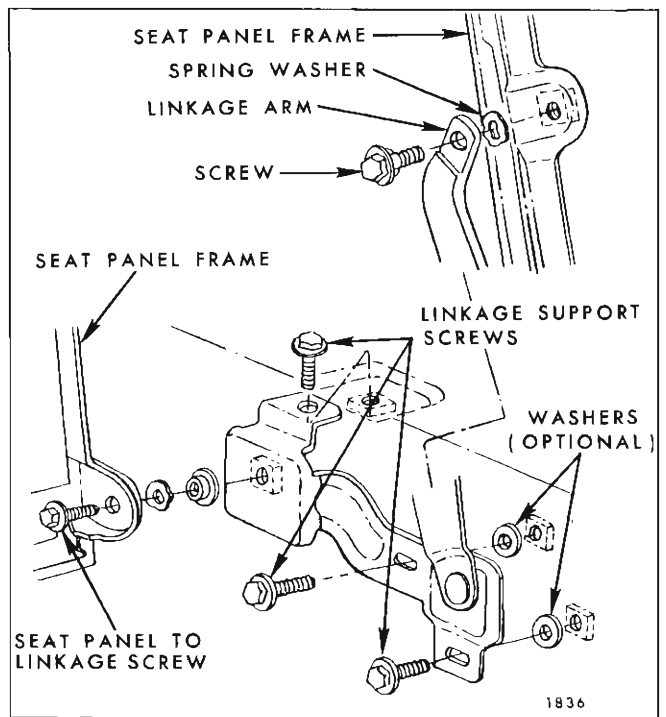

Fig. 2H24—Folding Third Seat Back Linkage
1. Place folding third seat cushion and back in normal sitting position. Remove both right and left rear compartment side cover panel.(See Fig. 2H18).
2. Remove two screws from both sides of seat securing third seat cushion linkage to body.(Fig. 2H22); then, remove seat cushion, panel assembly and linkage from body.
3. To remove linkage from folding third seat cushion panel, remove linkage attaching screw (Fig. 2H23) and remove linkage from seat back panel.